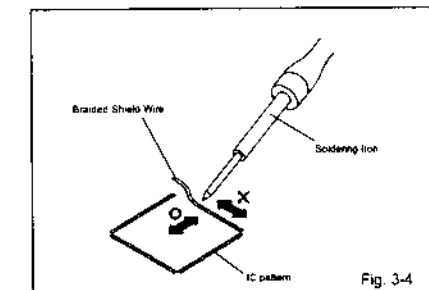

Fig. 3-4
- Absorb the solder left on the pattern using the Braided Shield Wire. (Refer to Fig. 3-4.)